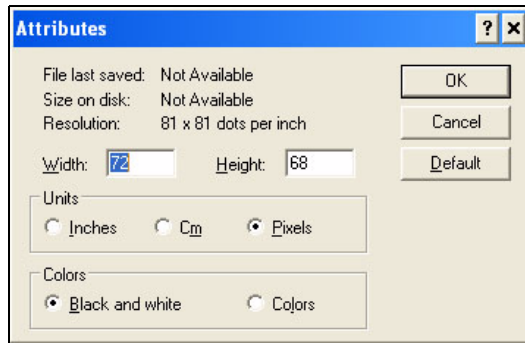

Figure 5-45: Image Attributes
- c. Select the colour format of the image as *Black and White*. (See Figure 5-45 on page 5-52)